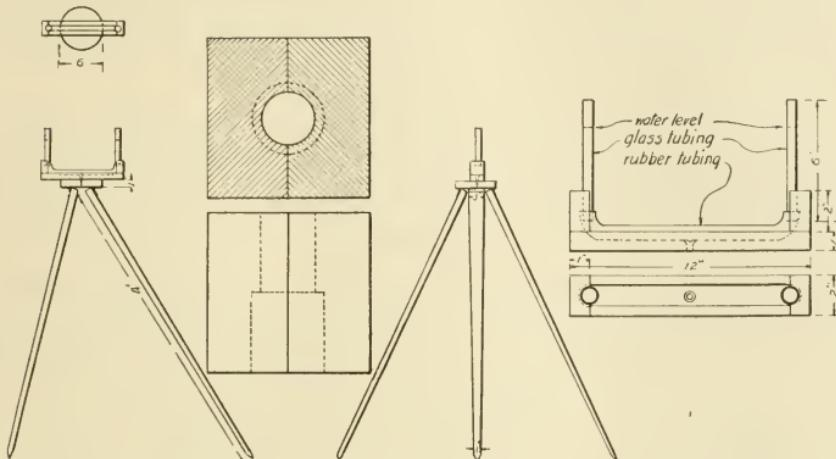

FIG. 81.—WORKING DRAWINGS OF FARMER'S LEVEL.
9. Boring the holes in the upright blocks.—When the two short blocks have been properly squared up, fasten them together in the vise, end grain uppermost. Locate the center by drawing diagonals from the corners, and bore the larger hole first, halfway through the block. Reverse the ends and bore the smaller hole the rest of the way, meeting the other hole in the center. (See Fig. 81.)